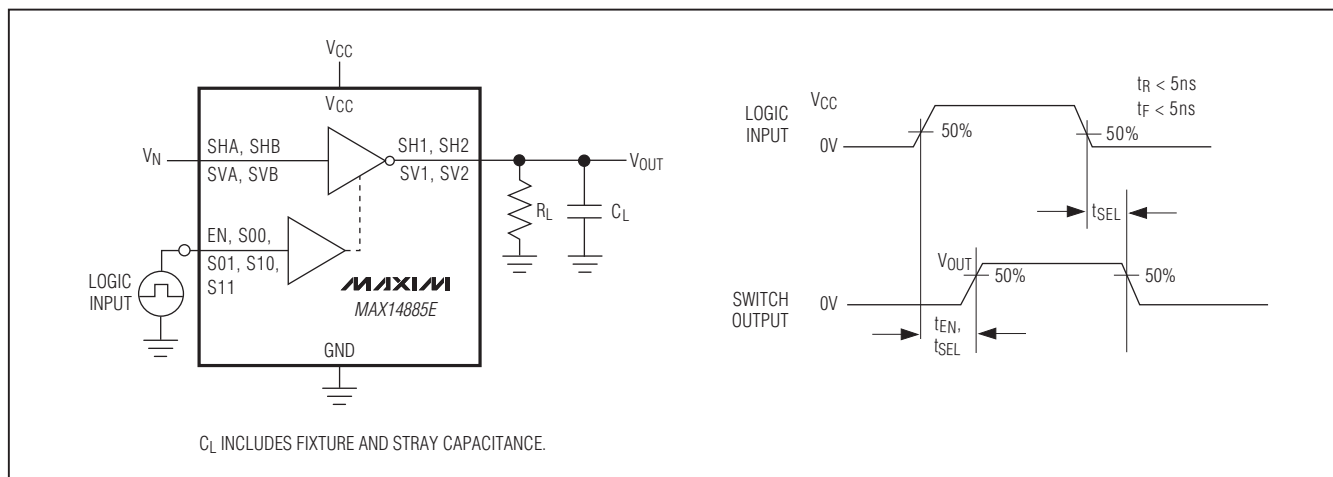

Figure 1. Enable/Select Time
| Enable Time                                                                    | $t_{EN}$   | $R_L = 2.2k\Omega$ , $C_L = 10pF$ , Figure 1 (EN)                                                                                                                  |                   | 1        |                   | $\mu s$    |
| Select Time                                                                    | $t_{SEL}$  | $R_L = 2.2k\Omega$ , $C_L = 10pF$ , Figure 1 (S00, S01, S10, S11)                                                                                                  |                   | 1        |                   | $\mu s$    |